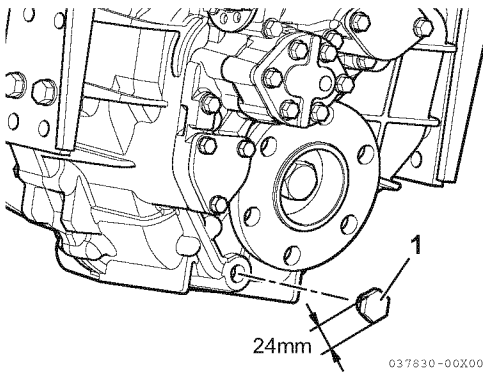

Figure 1
2. Remove the M16 drain plug (1, **Figure 1**) and seal.